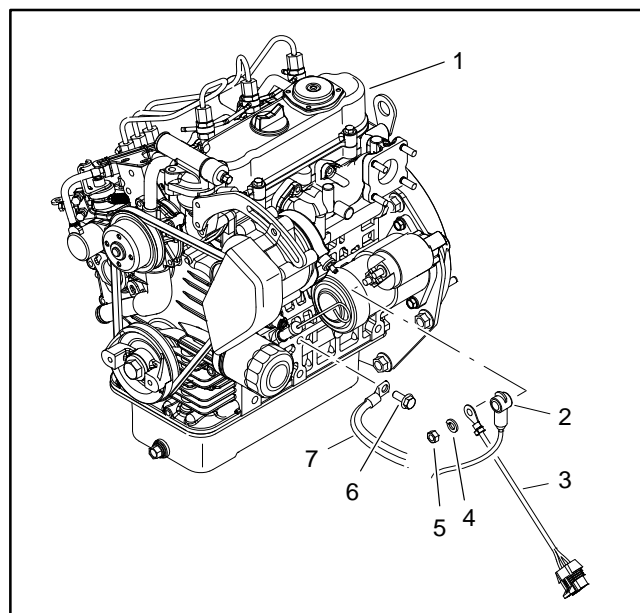

Figure 12
A. Positive (+) battery cable, fusible link harness and harness ring terminal from starter solenoid stud (Fig. 12).
F. Negative (–) battery cable and harness ground connector secured to engine mount (Fig. 12). Note location of ground connections and flange head screw for assembly purposes.
- A. Positive (+) battery cable, fusible link harness and harness ring terminal from starter solenoid stud (Fig. 12).
- F. Negative (–) battery cable and harness ground connector secured to engine mount (Fig. 12). Note location of ground connections and flange head screw for assembly purposes.